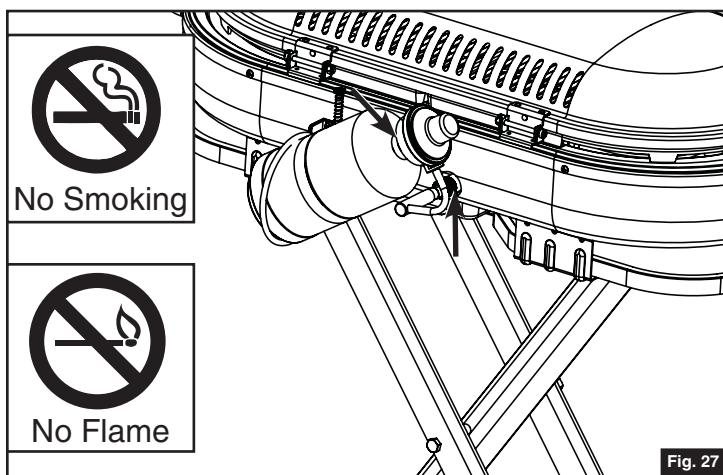

Fig. 27
- Apply a soap solution to the connections indicated with the arrows. (Fig. 27) If bubbles appear at these areas, a leak is indicated.